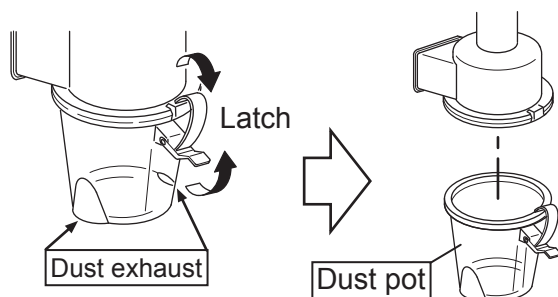

Figure 22. Unlatching Dust Pot
1. Release locking latches (Figure 22) on dust pot and remove dust pot from air cleaner body.